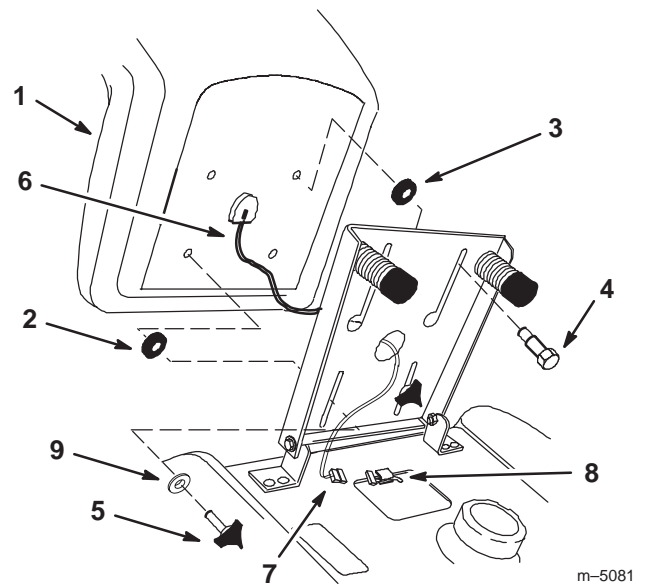

Figure 3
1. Install the large inside diameter spacer and the 2 shoulder bolts into the rear holes of the seat (Fig. 3).
2. Position the seat onto the seat base by inserting the 2 shoulder bolts through the key hole openings at the end of both slots (Fig. 3).
3. Locate the small inside diameter spacer between the seat and the seat base, thread the 2 knobs and 2 flat washers (11/32 inch) into the front holes in the seat (Fig. 3). Adjust the seat and tighten the knobs.
4. Route the seat switch wire and connector through the center opening in the seat base. Push the seat switch connector fully into the wire harness connector (Fig. 3).
5. Secure the seat switch wire cable to the fender opening (Fig. 3).